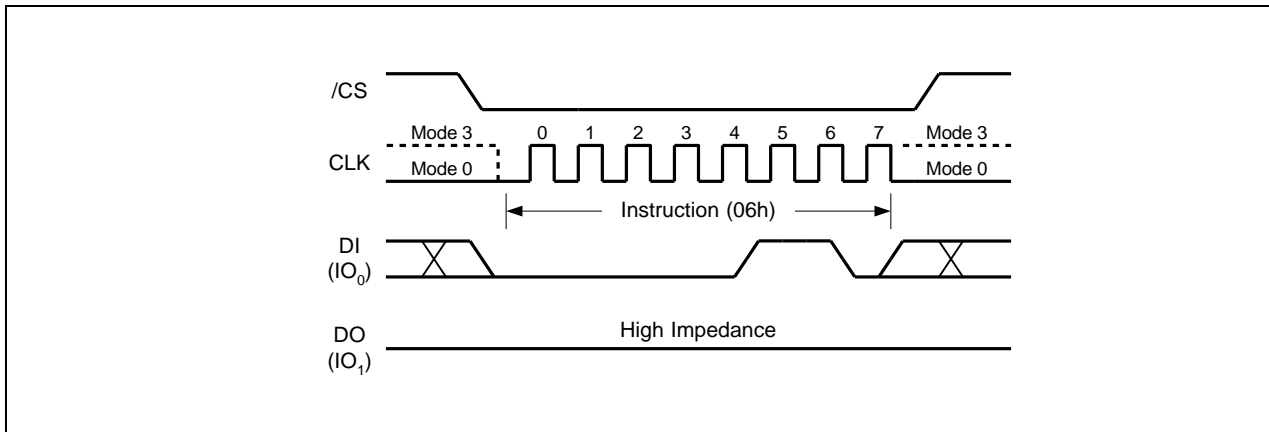

Figure 5. Write Enable Instruction for SPI Mode
The Write Enable instruction (Figure 5) sets the Write Enable Latch (WEL) bit in the Status Register to a 1. The WEL bit must be set prior to every Page Program, Quad Page Program, Sector Erase, Block Erase, Chip Erase, Write Status Register and Erase/Program Security Registers instruction. The Write Enable instruction is entered by driving /CS low, shifting the instruction code “06h” into the Data Input (DI) pin on the rising edge of CLK, and then driving /CS high.